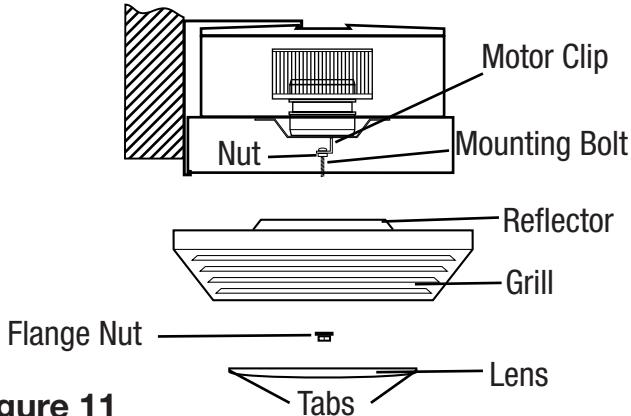

Figure 11
3. Install the grill/lens/reflector, by first removing the lens from the grill (there are two tabs on either side that hold the lens in place). Then remove the acorn nut and the lock washer which are installed on the reflector mounting bolt in the fan housing. Adjust the height of the reflector mounting bolt so that the grill will be tight up against the finished ceiling and less than 1/4" of the reflector mounting bolt protrudes through the reflector. Secure the reflector bolt's position by tightening the factory installed nut against the motor clip (**Figure 11**).